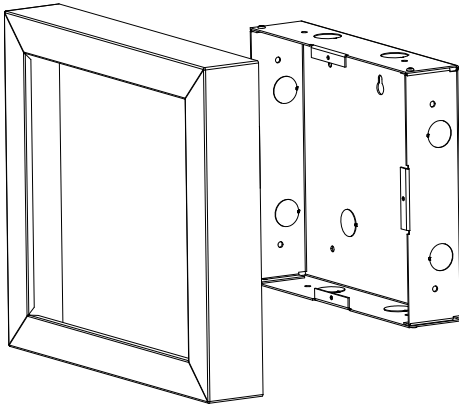

**Figure 3 Attaching Annunciator/Door Assembly**
- Attach the door assembly to the backbox using the screws provided. Refer to Figure 3.